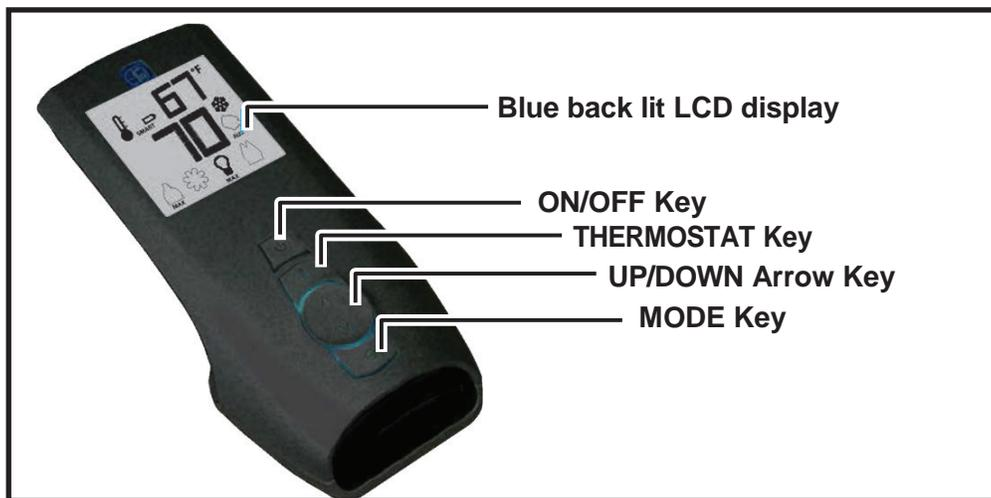
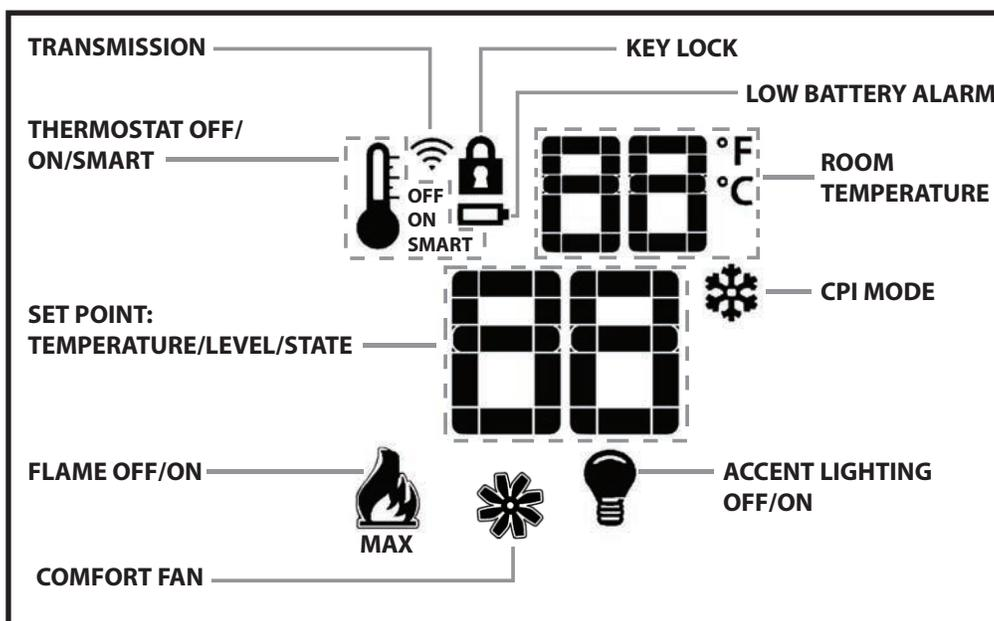
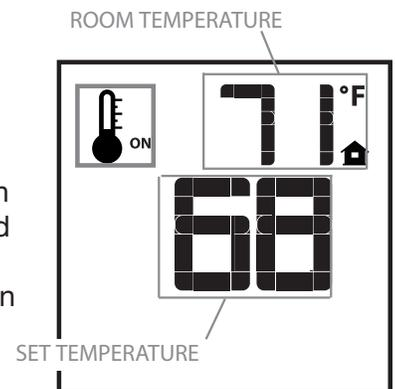
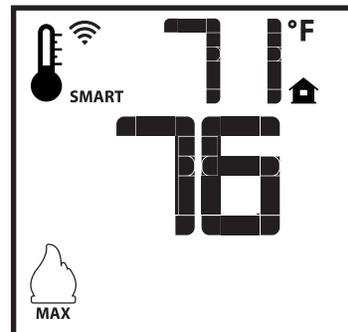

Figure 1: Proflame 2 handset.
Figure 2: Proflame 2 LCD screen details.
Figure 10: Room temperature.
Figure 11: Smart flame function.
The Proflame Remote Transmitter uses a streamline design with a simple button layout and informative LCD display (Figure 1). The remote transmitter is powered by 3 AAA type batteries. A mode key is provided to index between the features and a thermostat key is used to turn on/off or index through thermostat functions (Figure 1 and Figure 2).
To activate this function, press the thermostat key (Figure 1). The LCD display on the remote transmitter will change to show that the room thermostat is “ON” and the set temperature is now displayed (Figure 10). To adjust the set point, press the up or down arrow keys until the desired set point temperature is displayed on the LCD screen of the remote transmitter.
The Smart Thermostat function adjusts the flame height in accordance to the difference between the set point and the room temperatures. As the room temperature gets closer to the set point, the Smart Function will modulate the flame down. If the room temperature is cool, the Smart Function will modulate the flame up. To activate this function, press the THERMOSTAT key (Figure 1) until the word “SMART” appears to the right of the temperature icon (Figure 11). To adjust the set point, press the up or down arrow keys until the desired set point temperature is displayed on the LCD screen of the remote transmitter (Figure 11).
If the gas stove is equipped with a hot air circulating fan, the speed of the fan can be controlled by the Proflame System. The fan speed can be adjusted through six (6) speeds. To activate this function use the Mode Key (Figure 1) to index to the fan control icon (Figure 13). Use the Up/Down Arrow Keys (Figure 1) to turn on, off or adjust the fan speed (Figure 13 and Figure 14). A single “beep” will confirm reception of the command.
With the system in the “OFF” position, press the Mode Key (Figure 1) to index to the CPI mode icon (Figure 15). Pressing the Up Arrow Key will activate the Continuous Pilot Ignition mode (CPI). Pressing the Down Arrow Key will return to IPI (Figure 16). A single “beep” will confirm the reception of the command.
The light bulb function controls the exterior accent lighting. To activate this function use the Mode Key (Figure 1) to index to the light bulb icon (Figure 17). The intensity of the output can be adjusted through six (6) levels. Use the Up/Down Arrow Keys (Figure 1) to adjust the output level (Figure 18). A single “beep” will confirm reception of the command.